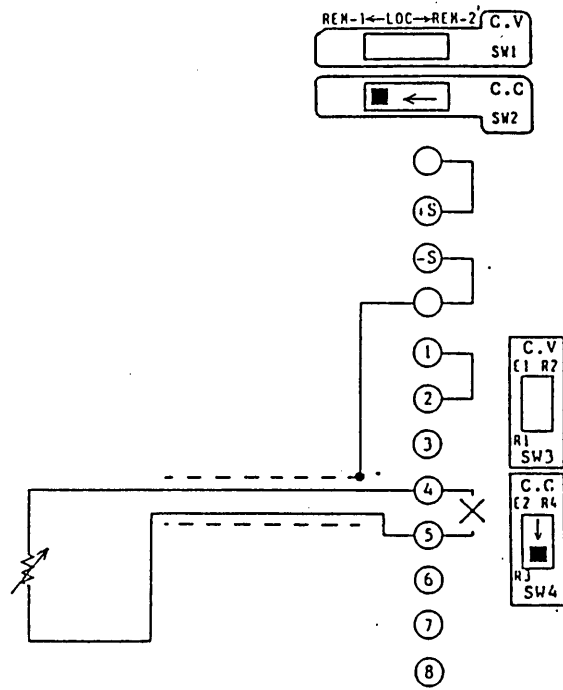

Figure 4-9
- (1) Turn off the POWER switch.
- (2) Throw the SW2 switch of the rear panel to REM-1.
- (3) Throw the SW4 switch of the rear panel to R3.
- (4) Disconnect the jumper from between terminals ④ and ⑤ of the rear terminal block.
- (5) Connect a control resistor (R3) to between terminals ④ and ⑤.
- (6) Connect an ammeter (a shunt resistor) between the OUTPUT terminals.
- (7) Turn on the POWER switch. (Turn on the OUTPUT switch.)
- (8) Adjust offset (at zero amperes) with the I.os control of the service panel.  $R3 = 0 (\Omega)$  (See Section 4.8.1, Note 5.)
- (9) Regarding the switches for which no settings are specified in Figure 4-9, set them to the standard states as shown in Figure 2-23 (See Section 2.4.) or to appropriate states for respective modes (See Sections 4.1 through 4.11.).